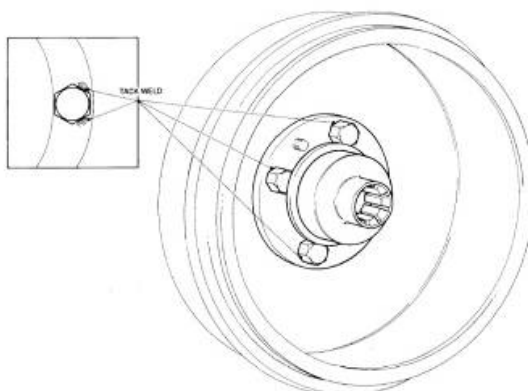

Figure 76 Welding Points For Propeller Shaft Bolts
- c. Remove the faulty bolts and tack weld the heads of the replacement bolts using an electronic welder (Figure 76).